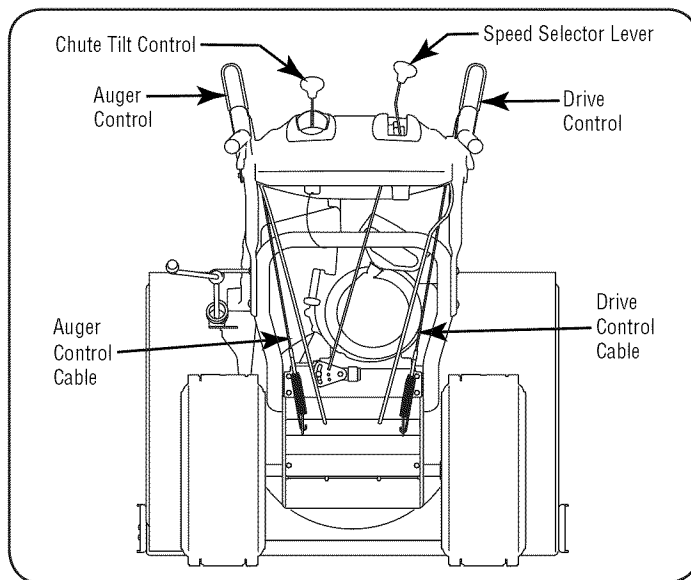

Figure 12
1. When the auger control is released and in the disengaged "UP" position, the cable should have very little slack. It should NOT be tight. Refer to Figure 12.
4. Allow the auger to remain engaged for approximately ten (10) seconds before releasing the auger control. Repeat this several times.
1. With the engine turned OFF, move the speed selector lever into sixth (6) position. Refer to Figure 12.
5. If you experienced resistance rolling the unit, either when repositioning the speed selector lever from (6) to (R2) position or when attempting to move the machine with the drive control released, adjust the drive control immediately. See Adjusting Drive and Auger Controls section.